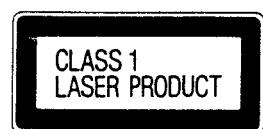

Fig. 2-1
- A "CLASS 1 LASER PRODUCT" label is affixed to the bottom of the player. (Fig. 2-1, 2)